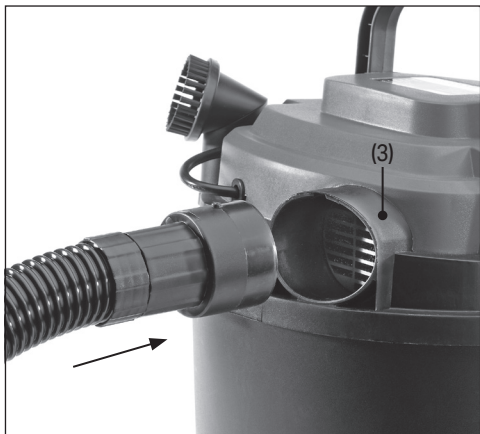

Fig. 9
3. Connect the flexible hose to the blower port (3), align the notch with the arrow on the port housing. Then turn anticlockwise to lock in place. (Fig. 9).